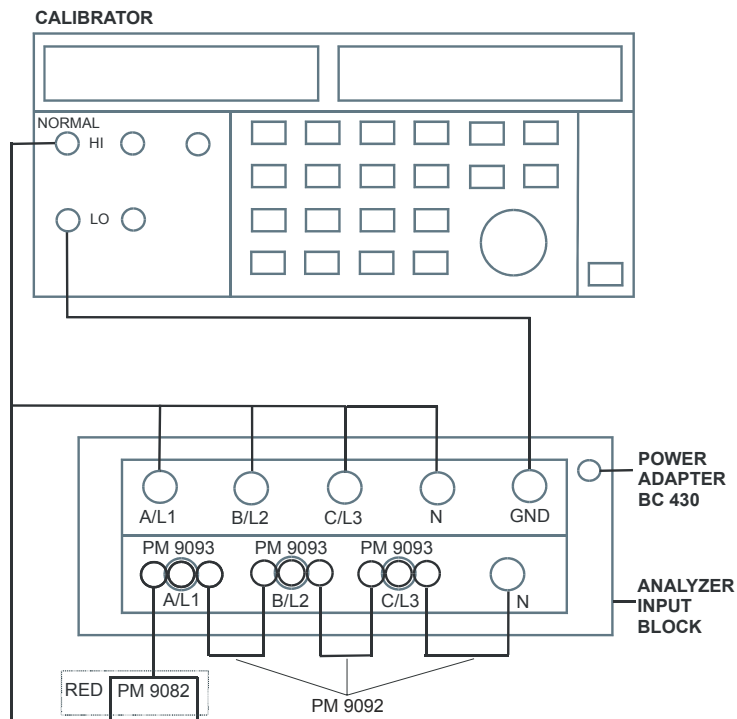

Figure 4-2. verification of Current Inputs
3. Connect the LO output (black) with the Ground (green) input of the Analyzer. Connect the HI output (red) with all current (BNC) inputs and the A/L1, B/L2, C/L3, and N voltage banana inputs of the Analyzer. Refer to Figure 4.2.